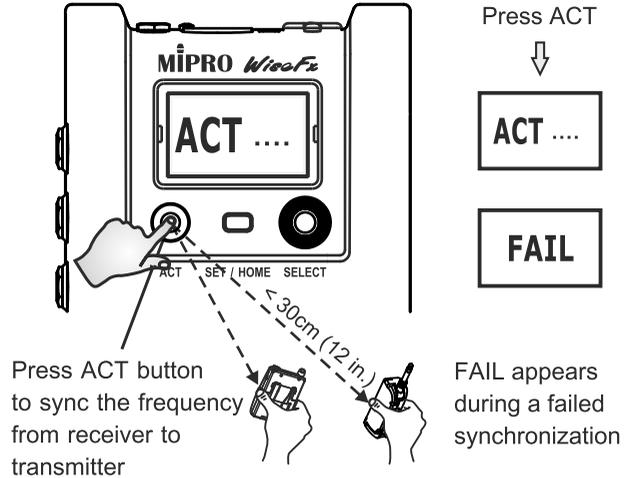

Fig. 27
(T) ACT Channel Sync Operating Instructions, Fig. 27: